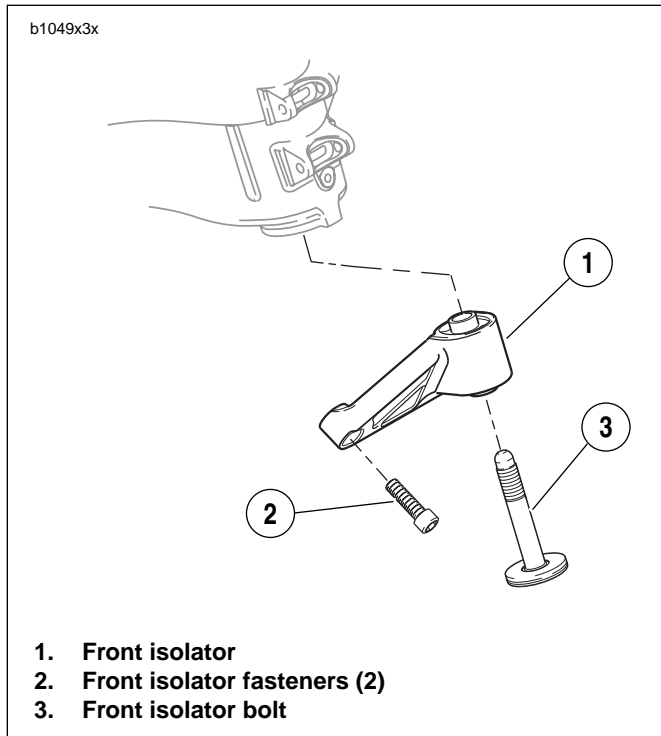

Figure 3-44. Front Isolator
- See Figure 3-44. Insert front isolator bolt (3) through front isolator (1) and loosely thread into frame. Do not tighten at this point.